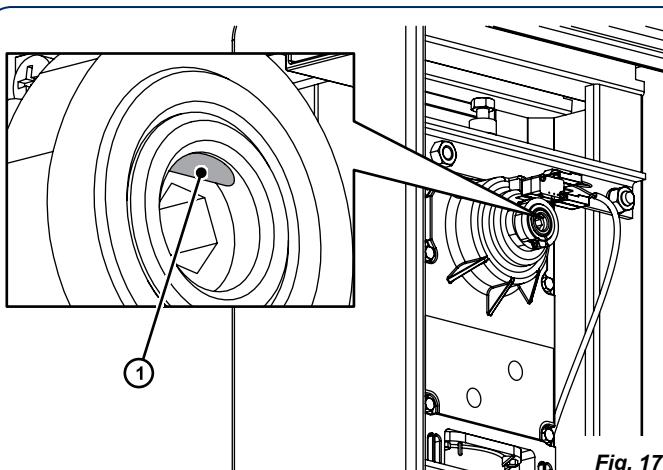

Fig. 17
**The mechanical stop consists of a pin, fig. 17 ref. ①. Do not go beyond it to avoid compromising system operation.**